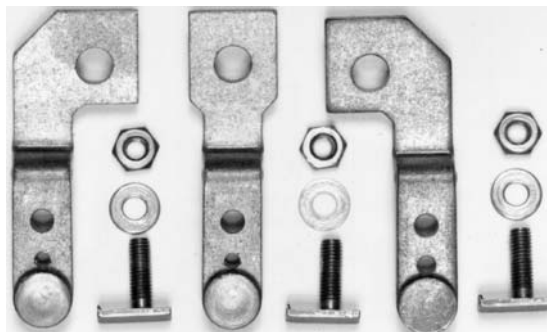

Figure 9. Stationary contacts and hardware.
Stationary Contacts (Figure 9)
2. Install new stationary contact units and secure them with new arc runner studs from the kit, (30–100 ampere outer plates face each other; 150–225 ampere outer plates face away from each other.) Be sure that the tips of the arc runners drop into the holes in the contact plates. Then tighten the nuts clockwise to 30–32 inch pounds. See Figures 9 and 10.